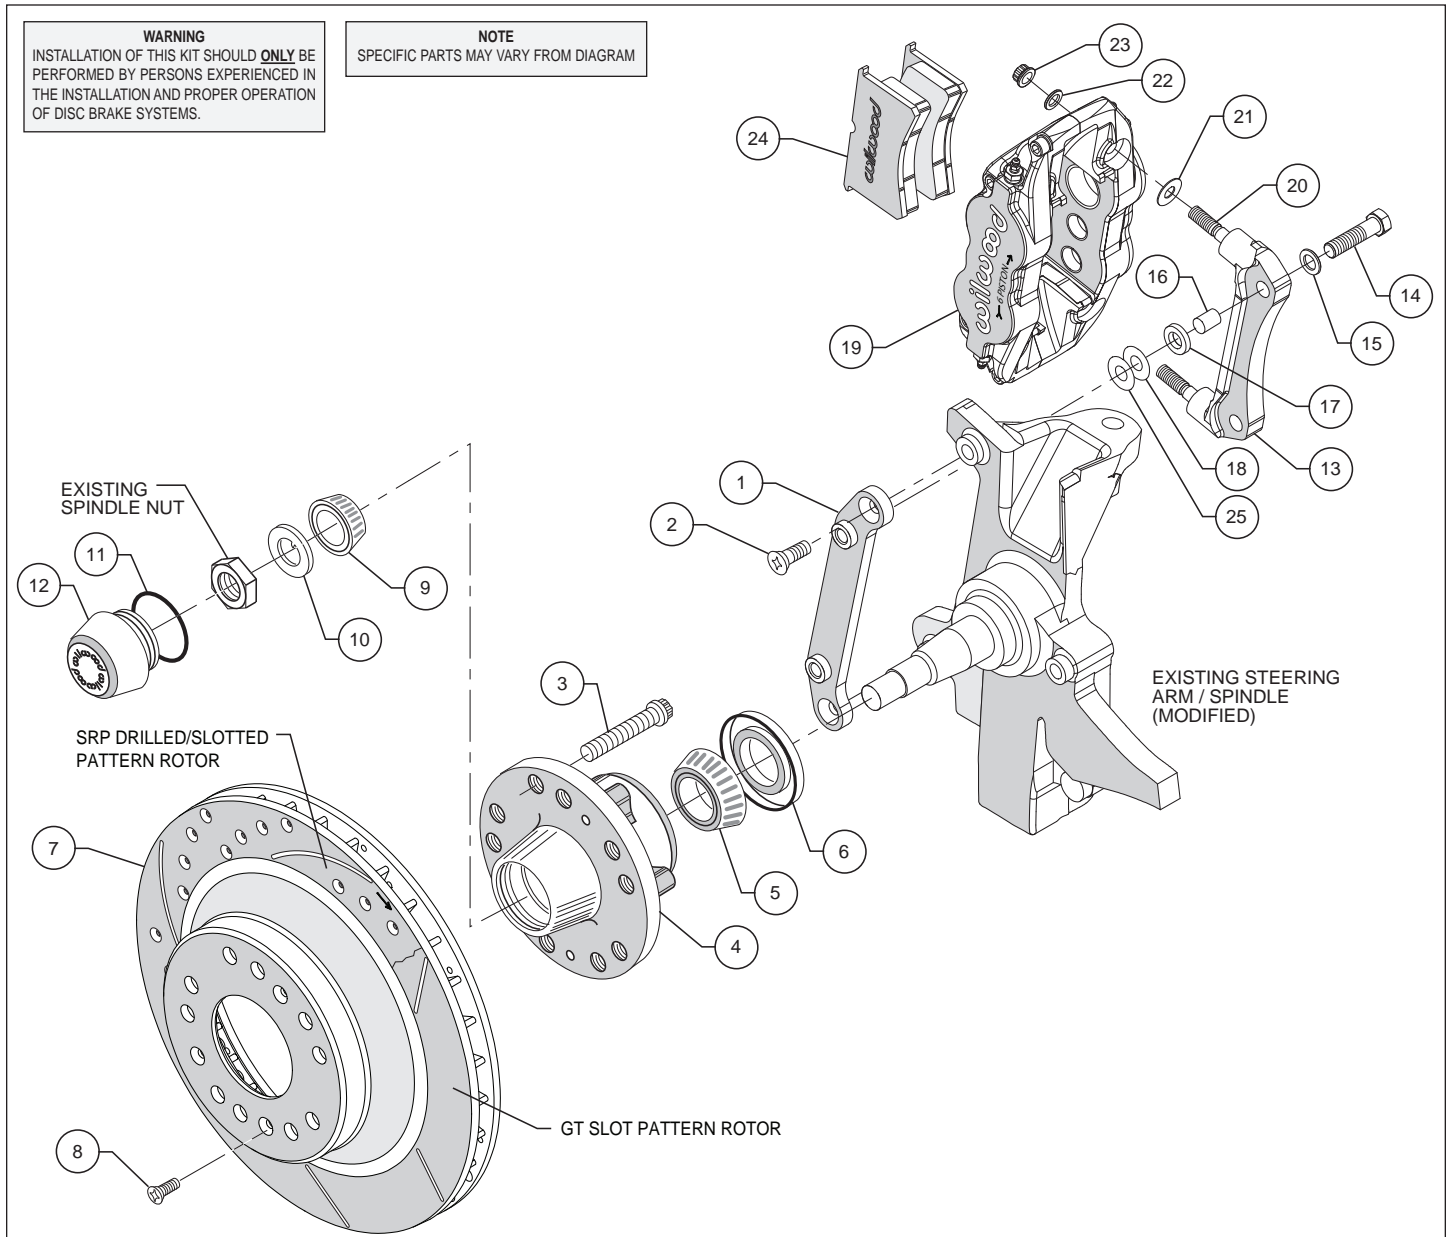
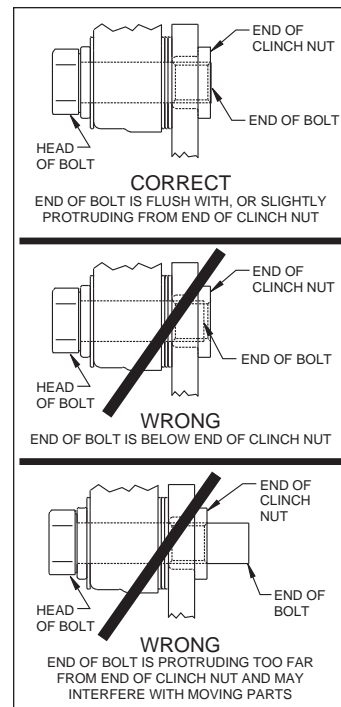

Figure 2. Typical Installation Configuration
Figure 4. Clinch Nut Engagement Diagram
Assembly Instructions (numbers in parenthesis refer to the parts list, and Figure 2): **CAUTION:** All mounting bolts must fully engage *clinch nuts*. Be sure to check that all bolts are either flush or protruding through flanged side of *clinch nut* after shimming, Figure 4.
- Orient the flat mounting bracket (1) as shown in Figure 2 and install using bolts (2). **NOTE:** Be sure the heads of the flat caliper bracket (1) insert nuts are facing outward toward the wheel. Temporarily tighten the mounting bolts. **NOTE:** The bracket must fit squarely against the mount bosses on the upright. Inspect for interference from casting irregularities, machining ridges, burrs, etc. After the bracket fitment has been checked, remove the bracket mounting bolts one at a time and apply red *Loctite*[®] 271 to the threads. Torque bolts to 40 ft-lb.
- The caliper radial mount bracket (13) should initially be installed with clean, dry threads on the mounting bolts. Place sleeve (16) into the holes on the bracket. Orient the bracket as shown in Figure 2, and install using bolts (14), and washers (15). Position spacer (17), and shim washers (18 and 25) between the two brackets. Initially place one .030" thick shim and one .016" thick shim on each bolt between the two brackets, Figure 2. Temporarily tighten the mounting bolts. Later, after the caliper alignment has been checked, the mount bolts will be secured using red *Loctite*[®] 271.
- Install wheel studs (3) into the hub (4), Photo 1. Torque to 77 ft-lb. **NOTE:** *There are two five lug patterns in the hub (5 x 4.50 and 5 x 4.75).* Ensure the correct hub stud pattern is being used to fit the wheel application.
- Pack the large inner bearing cone (5) with high temperature disc brake bearing grease (available from your local auto parts store) and install into the backside of the hub (4), Photo 2.
- Install the grease seal (6) by pressing into the backside of the hub (4), flush with the end of the hub, Photo 2.
- Pack the small outer bearing cone (9) with high temperature disc brake bearing grease and install into hub (4). Slide the hub assembly onto the spindle. Secure using spindle washer (10) and OEM spindle nut, Photo 3. Adjust bearings per OEM specifications. Install saved OEM nut lock (if any) and a new cotter pin (not included).
- Screw dust cap (12) into hub (4), Photo 4. Friction created by the o-ring (11) on the dust cap keeps it from unscrewing. **NOTE:** *The O.D. of the existing OEM spindle washer may be larger than the I.D. of the dust cap not allowing it to seat against the hub face. Therefore, use the spindle washer (10) supplied with the kit instead of the OEM washer.*
- Slide the hat/rotor (7) onto the hub (4) taking care to align the small countersunk holes in the hat with the small threaded holes in the hub. **NOTE:** *The hat must fit flush against the hub face or excessive rotor run out may result.* Install three flat head screws (8) through the small holes in the hat (7), Photo 4, and torque to 85 in-lb.
- **NOTE:** *This kit contains distinct right and left hand calipers that must be mounted in a specific direction, as described below.* Lubricate the caliper mounting studs (20) with lightweight oil. Initially place one .035" thick shim (21) on each stud between the caliper and the bracket, as shown in Figure 2 and Photo 5. Mount the caliper (19) onto the bracket (13) using lock nuts (23) and washers (22), Figure 2. Ensure that the caliper is mounted so the largest pistons are at the rotor exit end of the caliper, in relation to the direction of rotor rotation. Temporarily tighten the lock nuts and view the rotor through the top opening of the caliper. The rotor should be centered in the caliper, Photo 6. If not, adjust by adding or subtracting shims (18 and/or 25) between the two brackets. Always use the same amount of shims on each of the two mounting bolts. Once the caliper alignment is correct, remove the bracket mounting bolts one at a time, apply red *Loctite*® 271 to the threads, and torque to 60 ft-lb.
- Remove the caliper center bridge pad retainer bolt, nut, and tube from the caliper. Insert the brake pads (24) into the caliper, with the friction material facing the rotor, as shown in Photo 7. Check that the top of the brake pad is flush with the outside diameter of the rotor, Photo 8. If not, adjust by adding or subtracting shims (21) between the caliper and the bracket. After the caliper pad height is set, torque the caliper lock nuts (23) to 30 ft-lb. Secure the brake pads in place with the center bridge pad retainer tube, bolt, and locknut. The locknut should be snug without play in the bolt or tube. Be cautious not to over tighten.